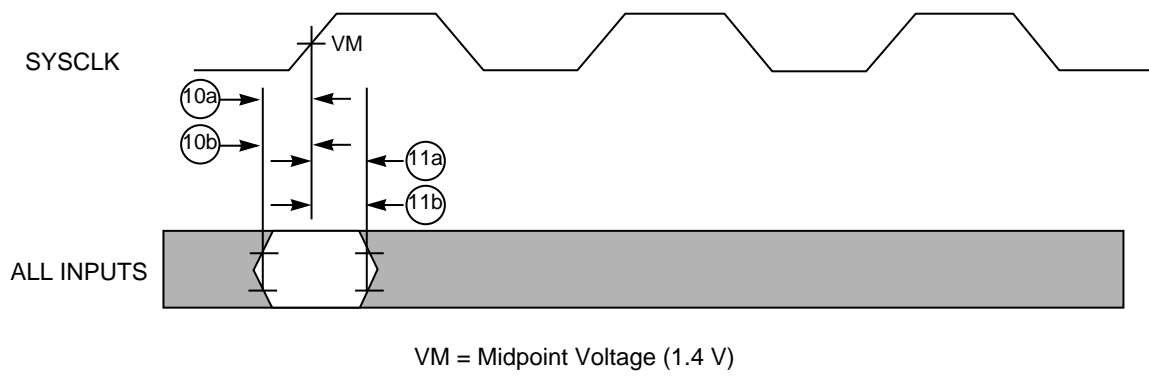
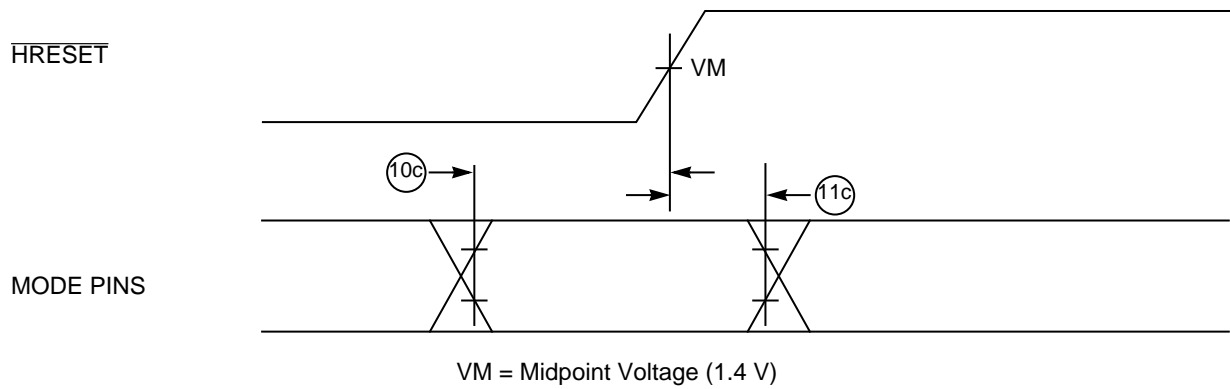

Figure 2. Input Timing Diagram
Figure 3. Mode Select Input Timing Diagram
Table 7 provides the input AC timing specifications for the 603e as defined in Figure 2 and Figure 3.
1. All input specifications are measured from the TTL level (0.8 or 2.0 V) of the signal in question to the 1.4 V of the rising edge of the input SYSCLK (see Figure 2). Both input and output timings are measured at the pin.
4. The setup and hold time is with respect to the rising edge of HRESET (see Figure 3).
Figure 2 provides the input timing diagram for the 603e.
Figure 3 provides the mode select input timing diagram for the 603e.